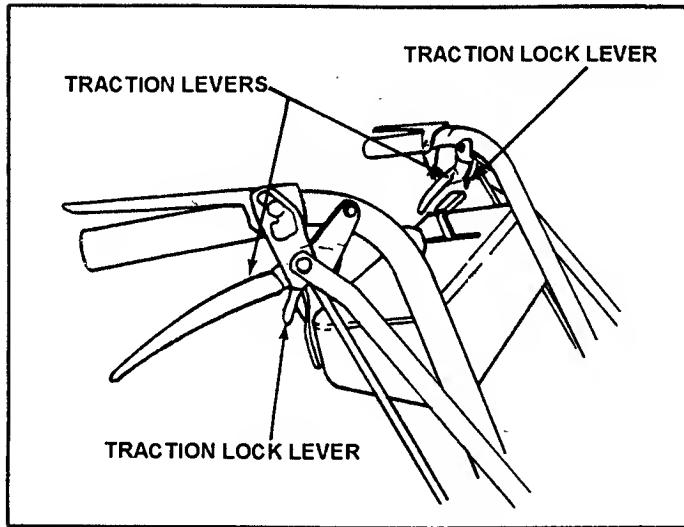

FIGURE 15
- b. Pull the Blade Clutch Switch backward to the OFF position. See Figure 15.
- 7b. PISTOL GRIP - TO STOP MOWER, simultaneously squeeze both Traction Levers firmly against the handle while pulling the Traction Lock Lever rearward with index finger until latched. See Figure 15